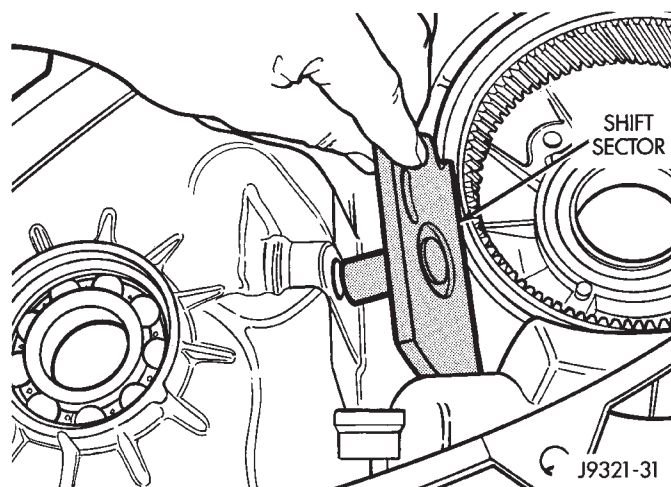

Fig. 31 Removing Shift Sector
(32) Remove shift sector. Rotate and tilt sector as needed to remove it (Fig. 31).
(33) Remove magnet from case.